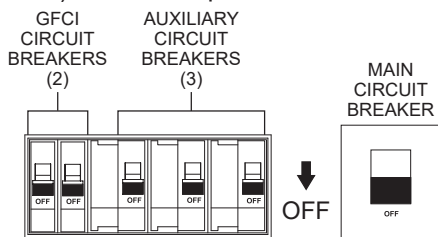

Figure 61. Main, Auxiliary, And GFCI Circuit Breakers (OFF)
2. Place the **main, auxiliary, and GFCI** circuit breakers (Figure 61) in the **OFF** position.
2. Place the **main, auxiliary, and GFCI** circuit breakers in the **OFF** position as shown in Figure 61.